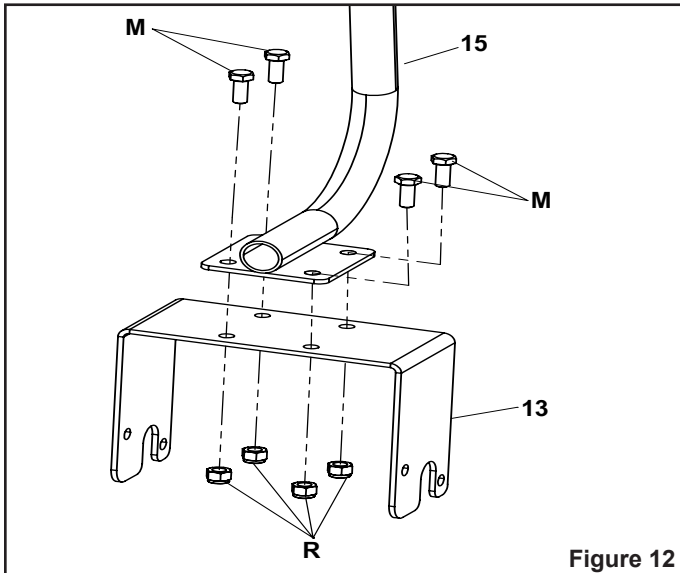

Figure 12
STEP 12: (SEE FIGURE 12)
- Join the swivel tube (15), bracket (13) as shown in the figure using four hex bolts (M) and four hex nuts (R).